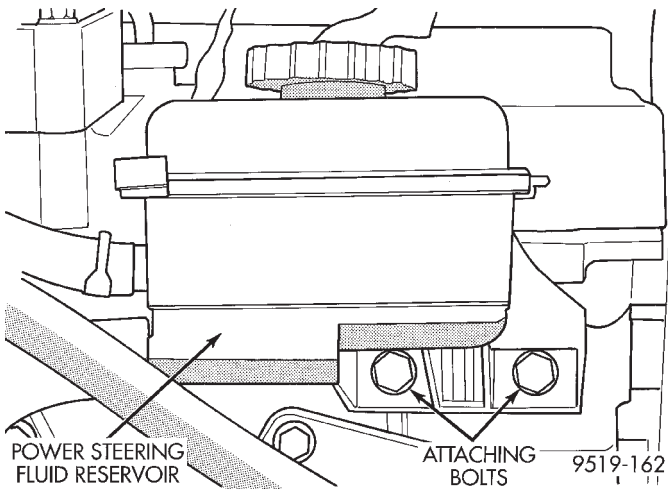
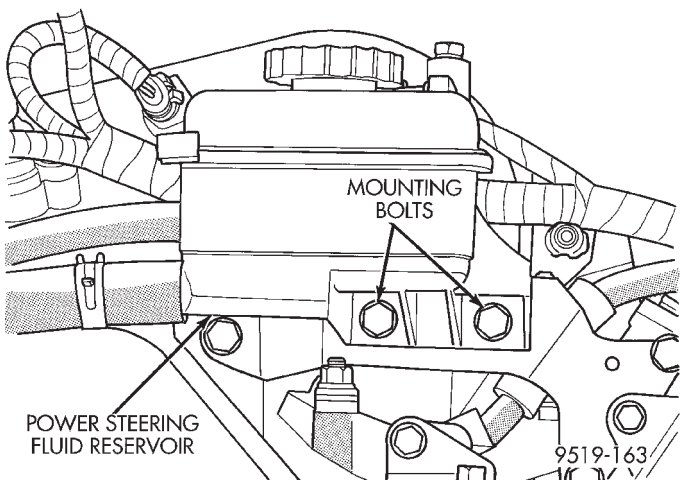

Fig. 25 Power Steering Fluid Reservoir Mounting 2.0 And 2.4 Ltr. Engine
Fig. 26 Power Steering Fluid Reservoir Mounting 2.5 Liter Engine
- (5) Remove power steering fluid return and supply hose, from power steering fluid reservoir.
- (6) Remove bolts attaching power steering fluid reservoir to engine (Fig. 25) or (Fig. 26).
- (1) Install power steering fluid reservoir on cylinder head. Install and securely tighten the power steering fluid reservoir attaching bolts (Fig. 25) or (Fig. 26).
- (2) Install power steering fluid return and supply hose, on power steering fluid reservoir fittings. **Be sure both hose clamps are installed on hose past upset bead on power steering reservoir fittings.**
- (3) Raise vehicle.
- (4) Install power steering supply hose, on suction fitting of the power steering pump. **Be sure hose clamp is installed on hose past upset bead on power steering gear steel tube.**
- (5) Fill power steering pump fluid reservoir to the proper level.
- (6) Start the engine and let run for a few seconds. Then turn the engine off.
- (7) Add fluid if necessary. Repeat the above procedure until the fluid level remains constant after running the engine.
- (8) Raise front wheels of vehicle off the ground.
- (9) Start the engine. Slowly turn the steering wheel right and left, lightly contacting the wheel stops. Then turn the engine off.
- (10) Add power steering fluid if necessary.
- (11) Lower the vehicle and turn the steering wheel slowly from lock to lock.